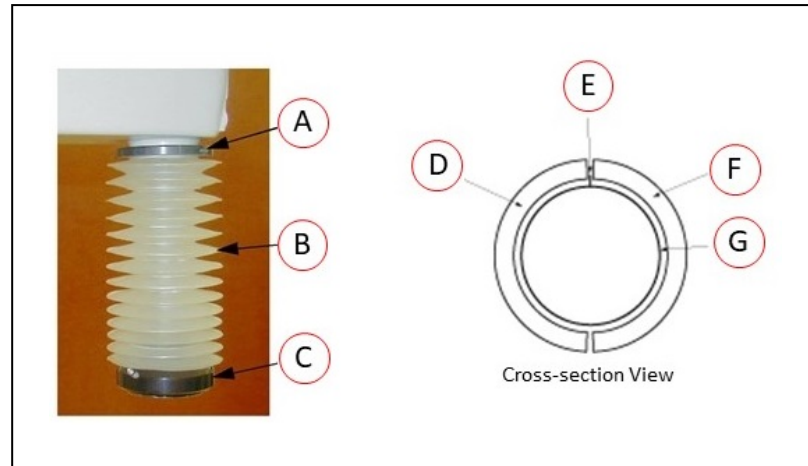

Figure 9-14. Bellows Replacement and Alignment
7. Re-install the upper bellows clamp. You must align the mating surface of the clamp half-rings with the bellows seam—refer to Figure 9-14. Tighten the screw to secure the bellows.